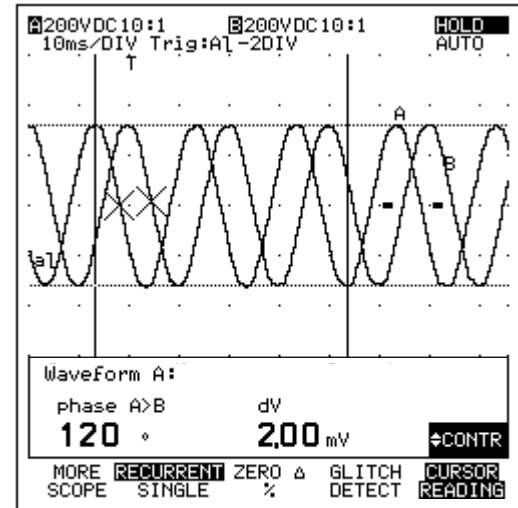

Figure 7-12. Phase Measurement (with Markers)
⑤    Activate the Cursor readings.
⑥    Go to page 2 within the More Scope window.
⑦  Choose ADD MAIN READING.
⑧  Open the list box.
⑨  : phase A>B  .
⑩  Close the window.
⑪   Position the two cursors on the waveforms; see Figure 7-12.
The display shows the phase between the waveforms on INPUT A and INPUT B: "phase A>B -120°" (see Figure 7-12).